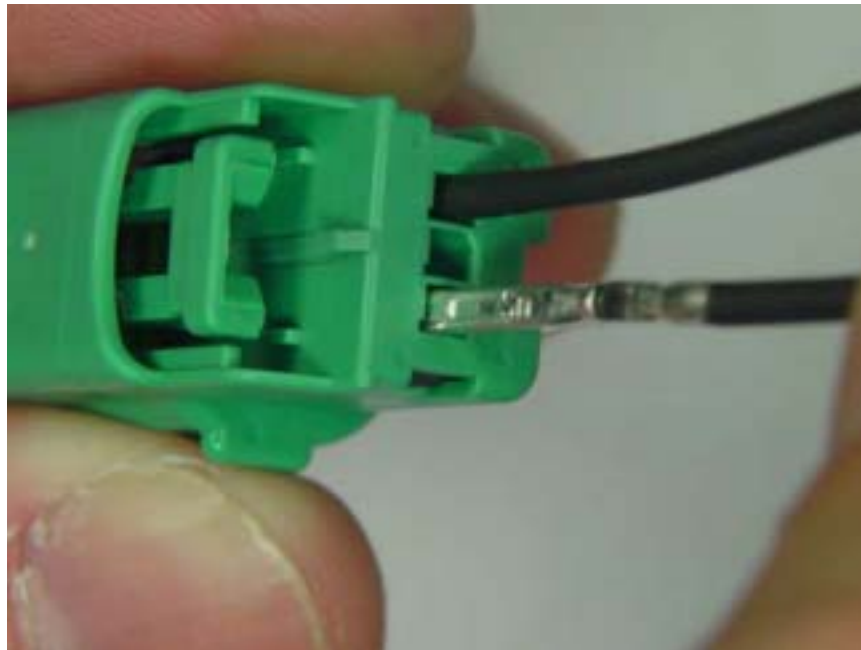

Fig. 5-12
- n** Once the terminal lock finger is disengaged, pull on the wire (Fig. 5-12) to release the terminal.